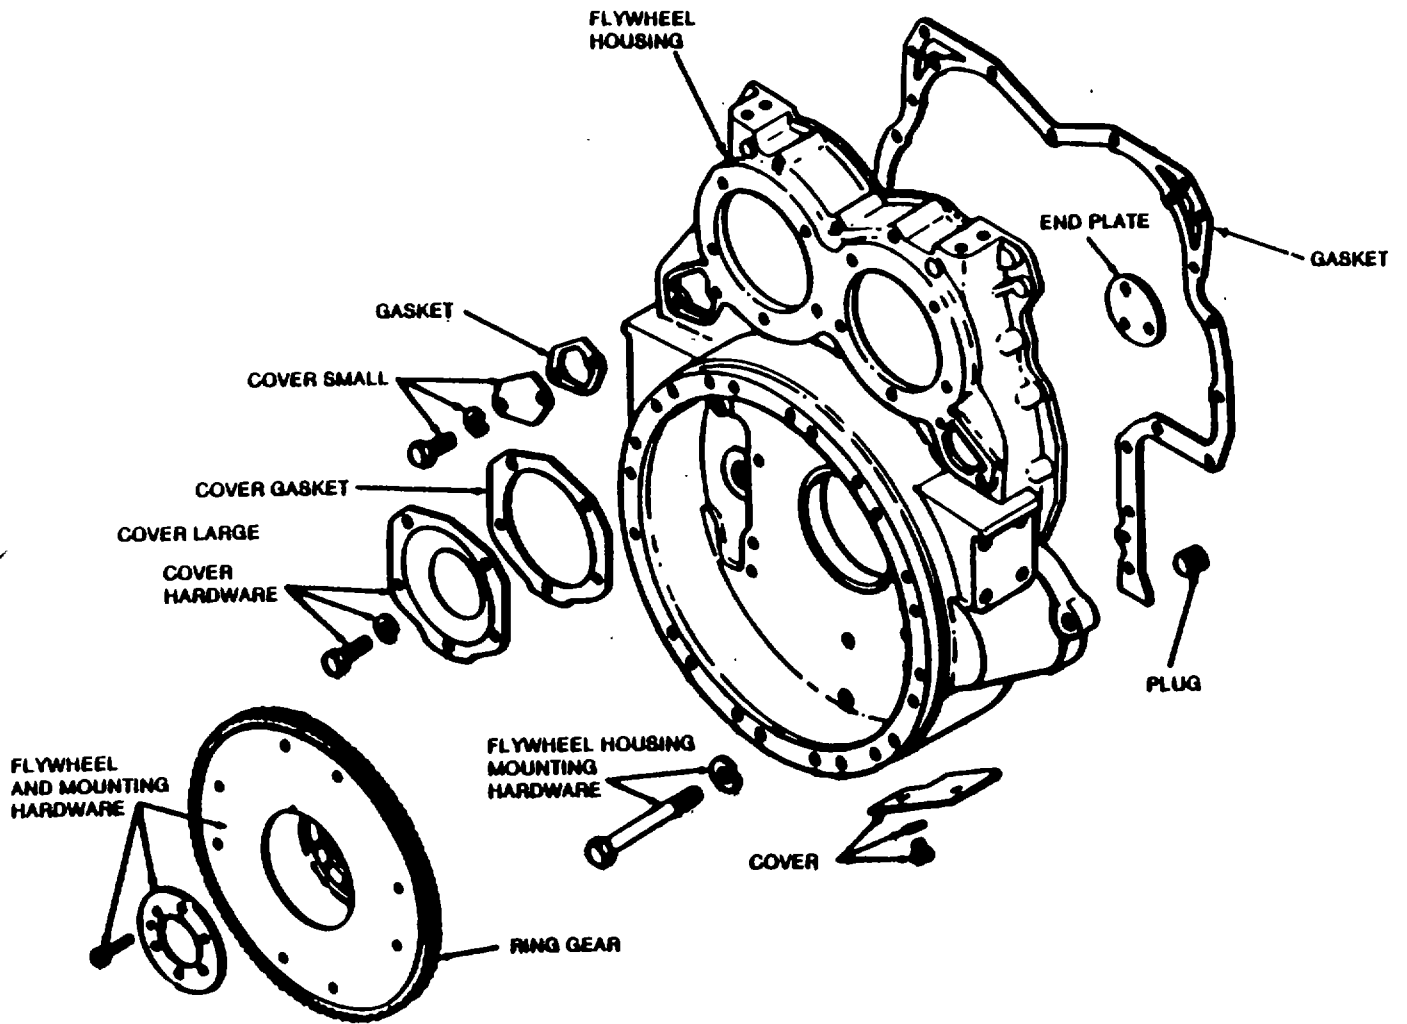

Figure 5-34. Flywheel housing removal and installation.
- (1) Remove engine assembly.
- (2) Remove flywheel assembly.
- (3) Refer to Figure 5-34 and remove flywheel housing.
b. Disassembly. Disassemble flywheel housing as illustrated in Figure 5-34.
(4) Coat the lip of crankshaft oil seal lightly with engine oil.
(5) Thread two pilot studs into cylinder block to guide housing in place (Figure 5-34). To pilot oil seal on crankshaft use an oil seal expander.
(6) With housing suitably supported, position it over crankshaft and up against cylinder block rear end plate and gasket. Remove oil seal expander.
(7) Install all of flywheel housing bolts, lock washers, flat washers, and copper washers in their proper location, finger tight. Remove pilot studs.